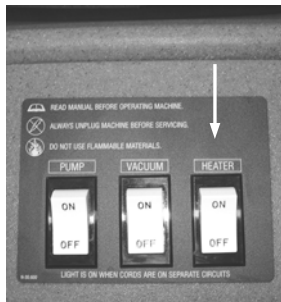

Fig. 4
3. Turn on heater for 5 minutes to warm up heat exchanger. (Figure 4).